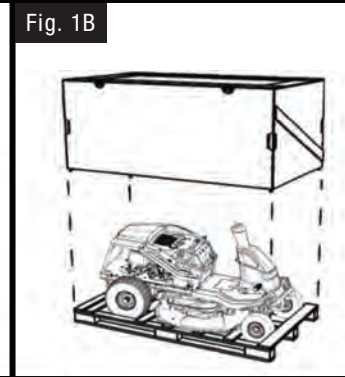

Fig. 1B
2. Lift and remove the corrugated exterior cover from the shipping crate. Refer to **Fig. 1B**.